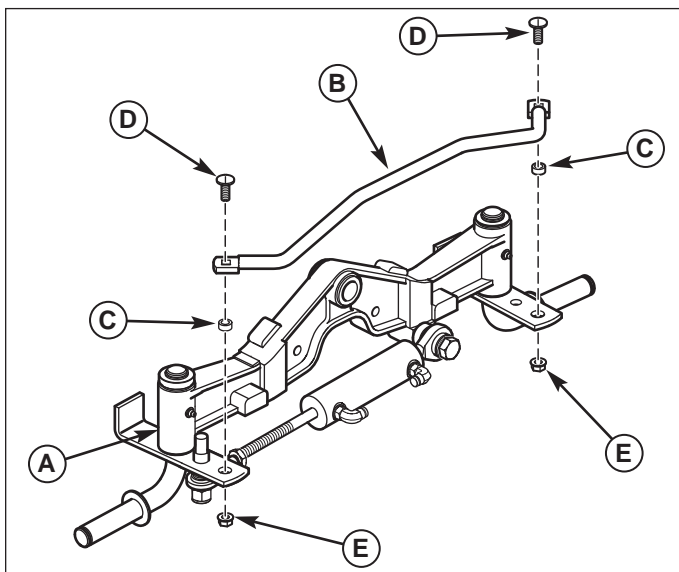

Figure 8 Tie Rod Installation
16. Attach tie rod (B, Figure 8) to new axle (A) using two spacers (C), two 3/8-16 x 1 square head bolts (D), and two 3/8-16 flange nuts (E) as shown. Tighten flange nuts to 19.5 ft. lbs (26.5 Nm).